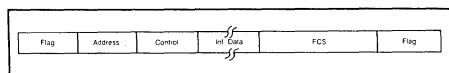

Figure 4 WD1933 HDLC FRAME FORMAT
In HDLC, the address (A) and control (C) characters are extendable (more than one character). An important characteristic of a frame is that its contents are made code transparent by use of a zero bit insertion and deletion technique. Thus, the user can adapt any format or code suitable for his system. The frame is bit-oriented, meaning that, bits not characters in each field have specific meanings. The Frame Check Sequence (FCS) is an error detection scheme similar to the Cyclic Redundancy Checkword (CRC) widely used in magnetic disk storage devices. The frame format is shown in Figure 4.